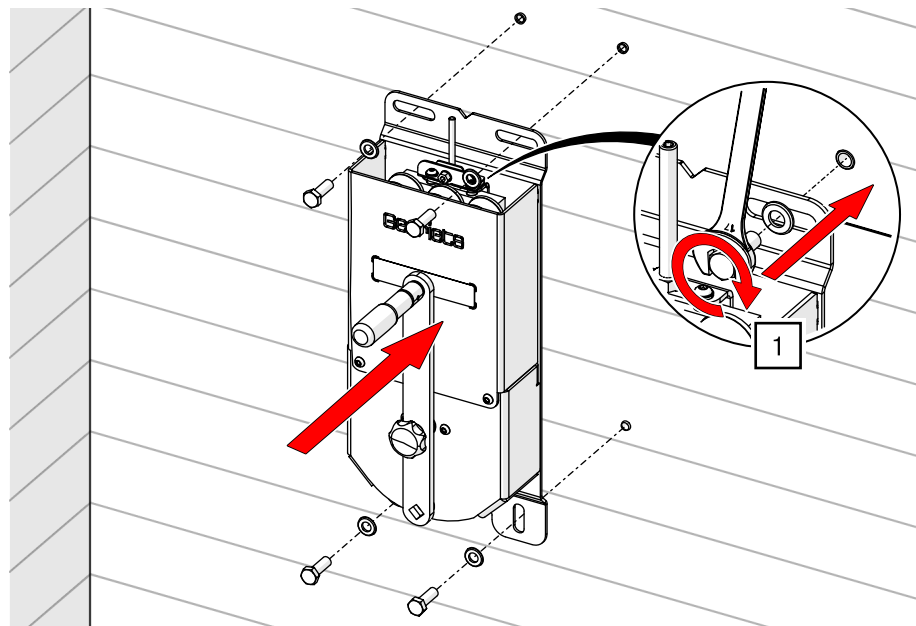

Fig.114: Screwing the HAND-DRIVE to the wall
1. Screw the cord drive to the wall using the appropriate mounting material for the surface (assembly according to the manufacturer's instructions; example concrete wall – see Fig.114).